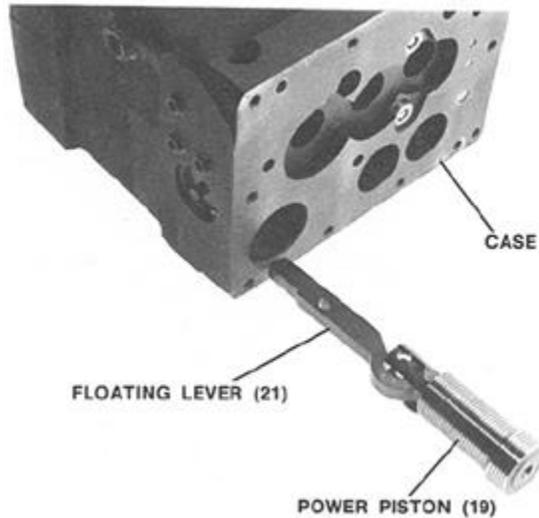
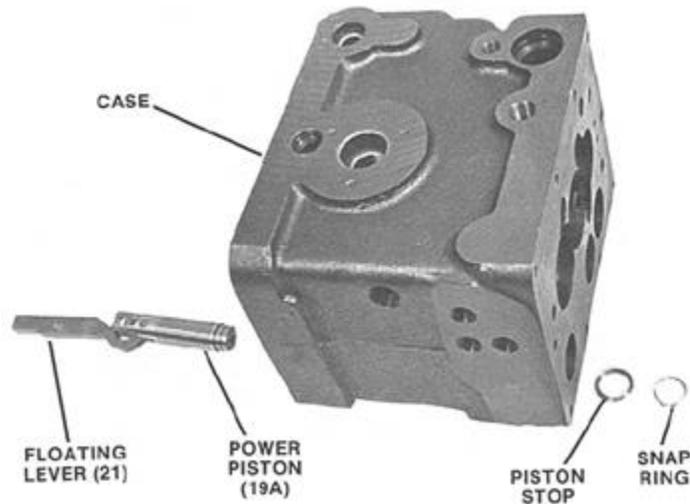

Figure 5-16. Power Piston Assembly (Large Size Piston)
Figure 5-16a. Power Piston Assembly (Small Size Piston)
13. Insert power piston (19) and floating lever (21) assembly into case per Figure 5-16.
There are two sizes of power pistons. Figure 5-16 shows the large size power piston (19) which is installed from the outside of the case. Figures 5-16a shows the small size power piston (19A) which is installed from the inside of the actuator case. The small size power piston is used on the EGB-1P only. If the small size piston is to be installed, be sure to slip the collar and the snap ring onto the end of the small piston, after it has been installed in the case.